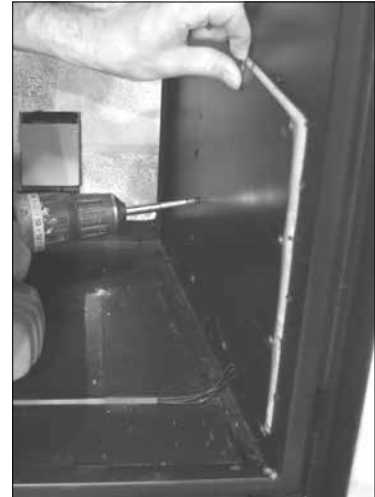

Figure 57: Removing Access Cover.
13. Remove the Valve Access Cover by removing all ten (10) T-20 screws (Figure 57).